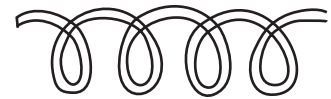

Fig.19.8: Wire wound on a cylindrical insulator
2. A certain length (ℓ) of wire, folded into two parallel, adjacent strands of length $\ell/2$, is wound on to a cylindrical insulator to form a type of wire-wound non-inductive resistor (Fig.19.8). Why is this configuration called non-inductive?